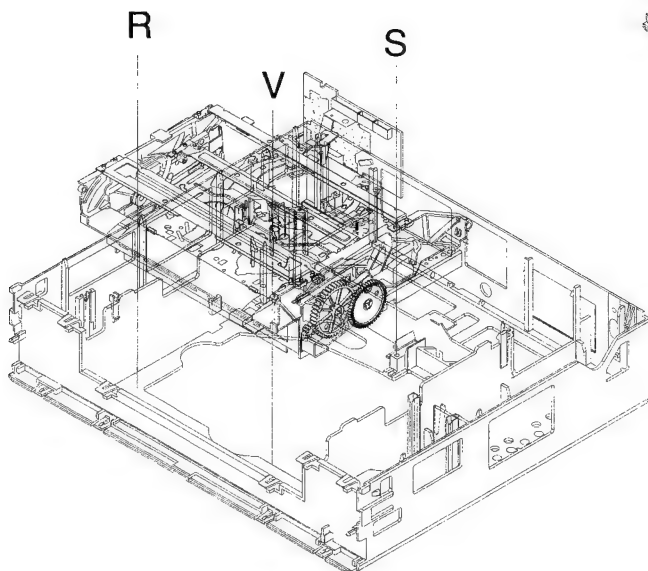

Fig. 8
- Unscrew the 3 screws V,R,S (see fig. 8).